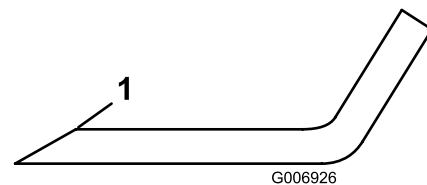

Figure 16
3. Inspect the cutting edges of all blades. Sharpen the cutting edges if they are dull or nicked. Sharpen only the top of the cutting edge and maintain the original cutting angle to make sure of sharpness (Figure 16). The blade will remain balanced if the same amount of metal is removed from both cutting edges.